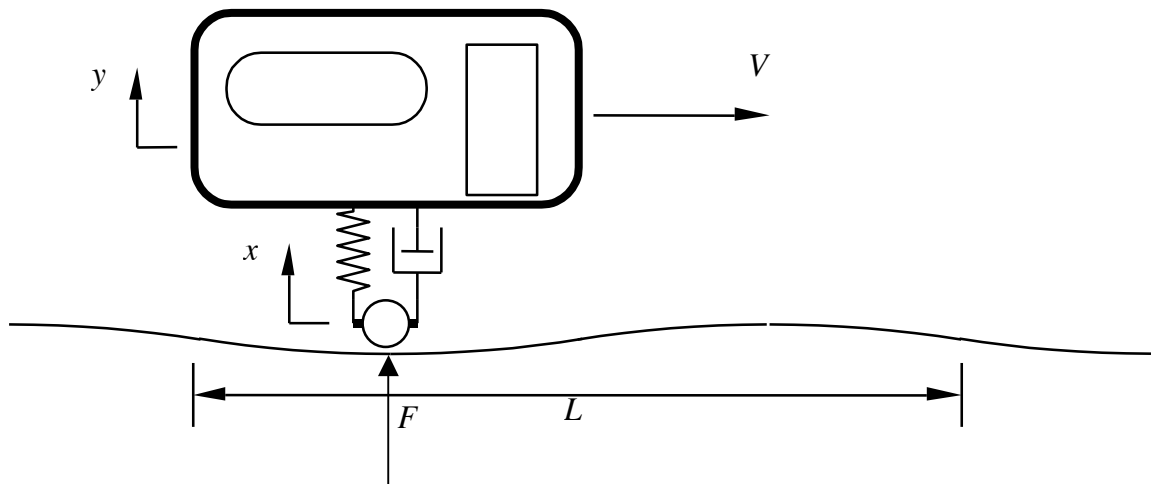

Fig. 6
*9. A caravan may be modelled as a mass m supported on an axle via a spring of stiffness k in parallel with a viscous dashpot of rate λ as shown in Fig. 6. Show that the absolute vertical displacement of the caravan is related to the absolute vertical displacement of the axle x by